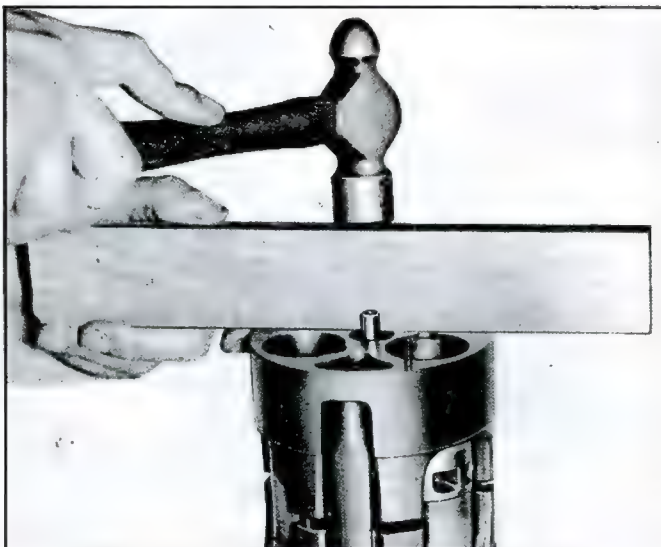

Fig. 51—Assembling Cylinder Halves
10. Align the rear head casting with bores, suction passage, discharge crossover holes, and dowel pins. Tap into place, using a plastic block and mallet (fig. 51).